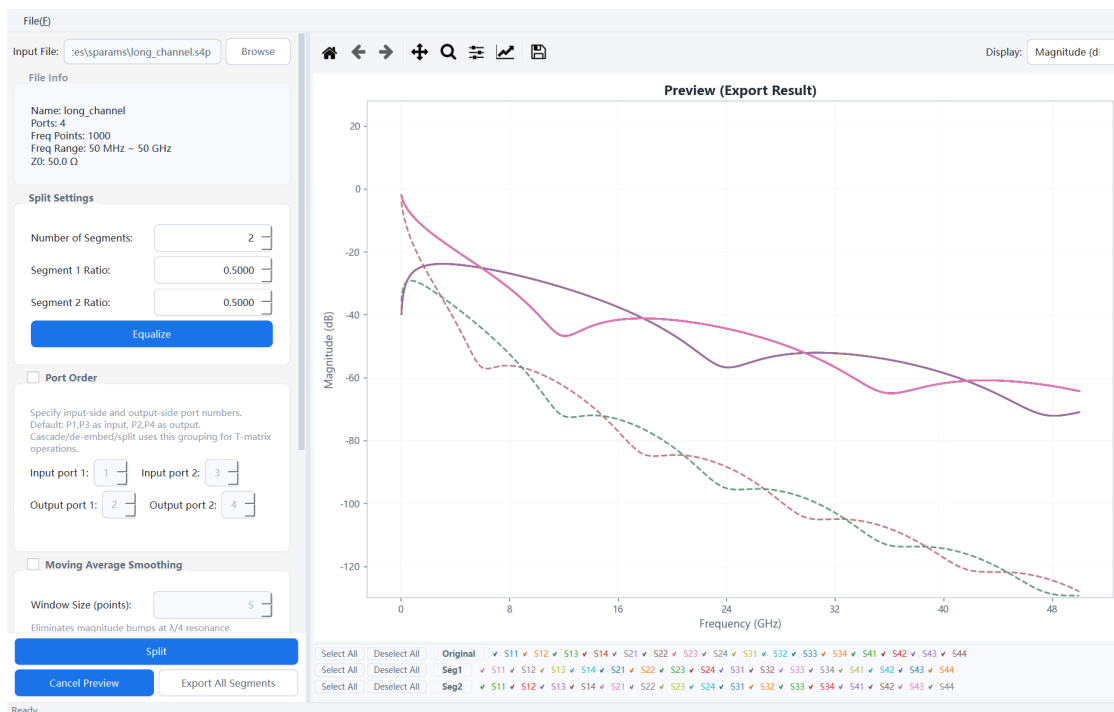

Fig. 7-5 Split: start with two equal segments
Step 1 Menu **S-Parameter Analysis** → **Split**, pick **long_channel.s4p**, 2 segments, confirm default input ports **1,3** and output ports **2,4**. Disable smoothing and differential preview. Start with equal ratios, click Split, then Preview (Fig. 7-5).